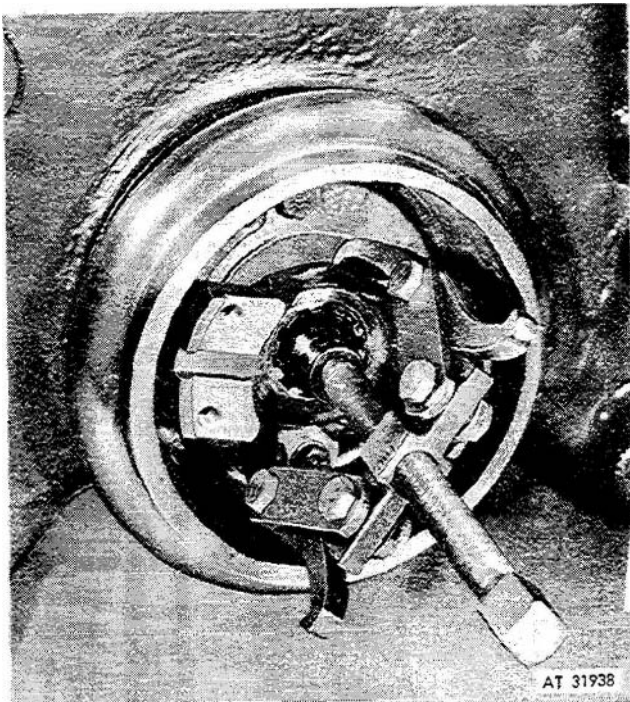

Figure 3-142. Removing yoke from thru-shaft.
(10) Disconnect yoke (4, fig 3-141) by removing cotter pin (1), nut (2), and washer (3). Using a suitable puller, remove yoke from shaft (11) as shown in figure 3-142.